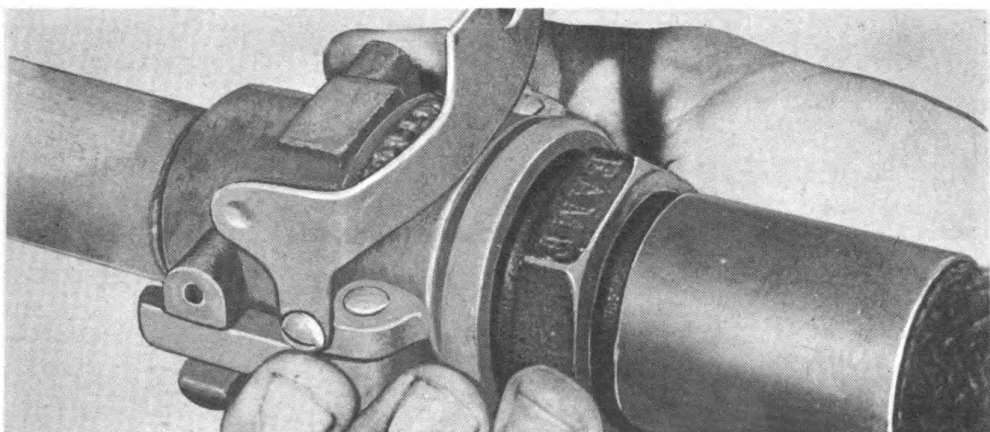

Fig. 47. Closing two cams so they lie flat against coupling body.
- Close cams so that they lie flat against coupling body (fig. 47).